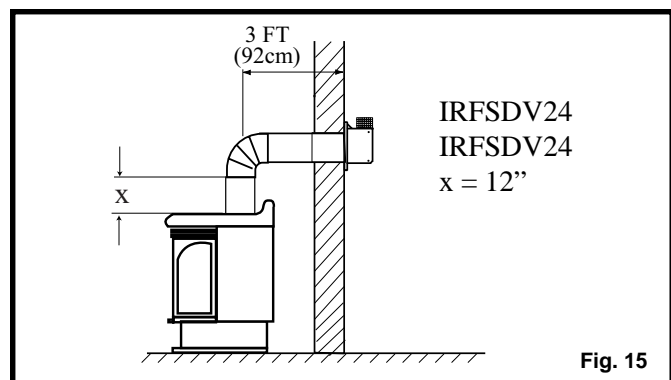

Fig. 15
- The maximum number of 90° elbows per side wall installations is three (3).
- For IRFSDV24 and IRFSDV34 models the maximum horizontal run off a minimum 12" vertical rise is 3' (see Fig. 15).